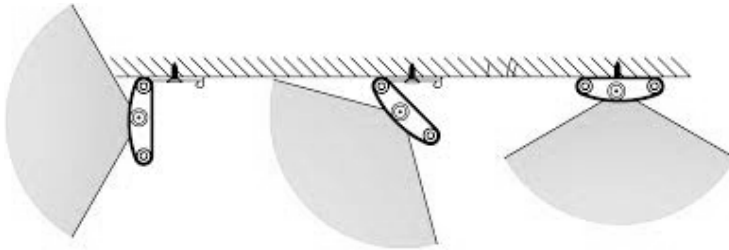

Fig 4
- The direction of LED light can be adjusted up to 90° for optimum positioning (see Fig 4)